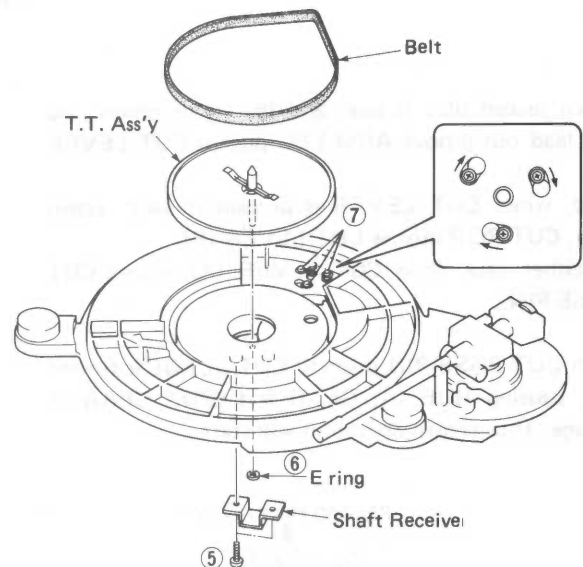

Fig. 3
- b. Remove 2 screws ( ⑤ ) in Fig. 3 and then remove the Shaft Receive.
- c. Remove E ring ( ⑥ ) in Fig. 3 and then remove the T.T. Ass'y.
- a. Loosen 3 screws ( ⑦ ) in Fig. 3.
- b. Rotate the Motor as shown in Fig. 3 and then remove the Motor.